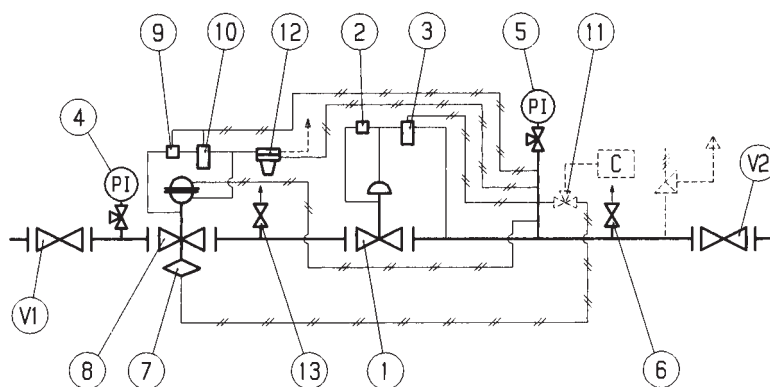

Fig. 27
5.6 MESSA IN SERVIZIO REGOLATORE APERFLUX 851 PIÙ MONITOR IN LINEA REFLUX 819 CON VALVOLA DI BLOCCO INCORPORATA SB/82 E VALVOLA ACCELERATRICE (FIG. 27)
5.6 COMMISSIONING THE REGULATOR APERFULX 851 WITH REFLUX 819 IN-LINE MONITOR WITH INCORP. SB/82 SLAM-SHUT AND ACCELERATING VALVE (FIG. 27)
5.6 INBETRIEBNAHME DES REGLERS MIT IN REIHE GESCHALTETEM APERFLUX 851 MONITORREGLER REFLUX 819 MIT INTEGRIERTEM SAV SB/82 UND SCHLISSBESCHLEUNIGER (FIG. 27)
5.6 MISE EN SERVICE DU DÉTENDUEUR APERFLUX 851 ET MONITOR EN LIGNE REFLUX 819, AVEC VANNE DE SÉCURITÉ INCORPORÉE SB/82 ET VANNE D'ACCÉLÉRATION (FIG. 27)
5.6 PUESTA EN SERVICIO DEL REGULADOR APERFLUX 851 CON MONITOR EN LÍNEA REFLUX 819 VÁLVULA DE SEGURIDAD INCORPORADA SB/82 Y VÁLVULA ACELERADORA (FIG. 27)
5.6 ACTIVAÇÃO DO REGULADOR APERFLUX 851 COM MONITOR EM LINHA REFLUX 819 COM VÁLVULA DE BLOQUEIO INCORPORADA SB/82 E VÁLVULA ACELERADORA (FIG. 27)